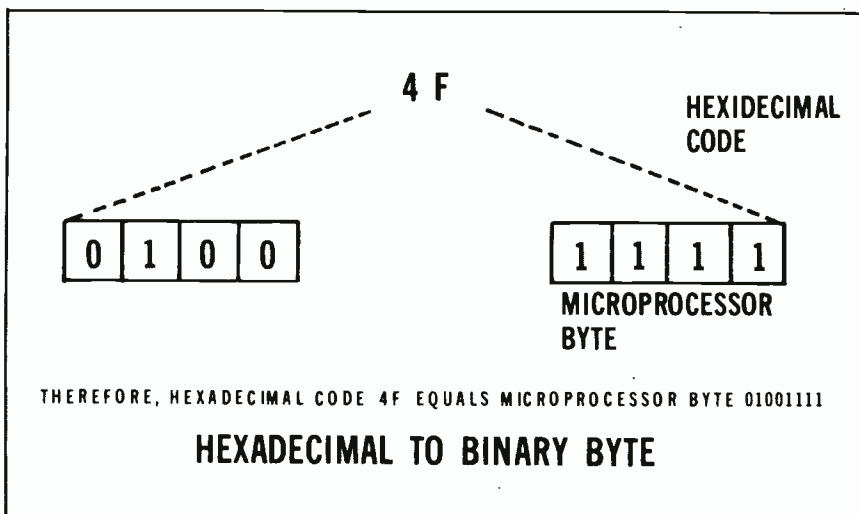

Figure 4 This is the method of converting hexadecimal 4F to machine code 01001111.
**Figure 4 (A)** This schematic is typical of horizontal-output tube grid circuits. Dotted lines show how a varistor HV regulator is connected. **(B)** Top trace is the 200VPP oscillator signal at the output grid, with zero line added by the scope. The plate current waveform is shown by the lower dual trace. **(C)** These waveforms are the same as those in B, but external negative voltage from a varistor has increased the dc grid voltage from -50V to -70V. The instantaneous grid voltage never reaches zero; therefore, the plate current is lower (bottom trace). Both B and C were made with the same scope adjustments, so comparisons may be made. **(D)** To find the grid bias where plate current begins, the sawtooth was made taller and then the current lower trace was moved up until the sawtooth slope crossed the current line at the corner where plate current began. The vertical position of the current baseline shows the cutoff point was -48V. Careful scope measurements showed retrace occupied 17%, damper current flowed for 28% and output tube current flowed for 55% of the whole cycle. But, for the trace section of the cycle alone, damper current flowed for 34% and tube current flowed for 66%. This is not the 50/50 ratio usually stated.
Figure 4 shows how the hexadecimal code 4F is converted to an 8-bit byte for instructing the microprocessor.